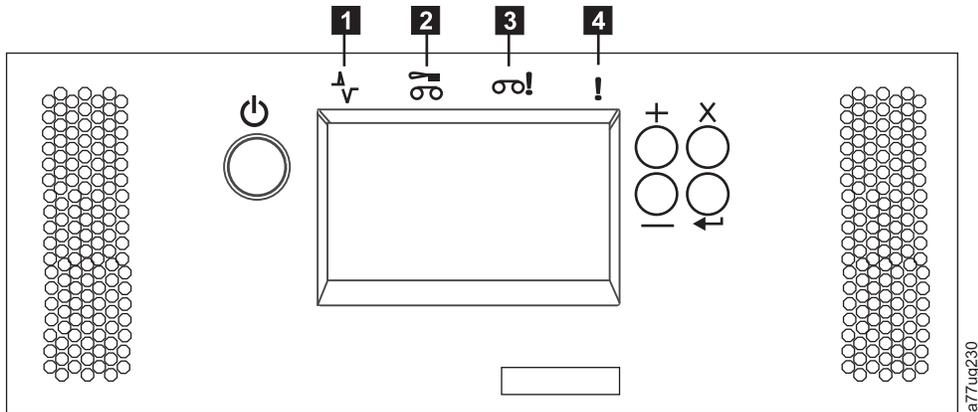

Figure 10-23. Library front panel LEDs
- 1) After power up, the Ready/Activity LED ( **1** in Figure 10-23 on page 10-23) turns ON.
- 1) The Error LED ( **4** in Figure 10-23 on page 10-23) turns ON.
- 1) The replacement library enclosure powers up with the Ready/Activity LED ( **L** in Figure 10-23 on page 10-23) ON.
- 1) The Error LED ( **4** in Figure 10-23 on page 10-23) turns ON. This action indicates that the library controller card from the defective library is not functioning properly.
- 1) The replacement library enclosure completes with the Ready/Activity LED ( **1** in Figure 10-23 on page 10-23) ON.
- 1) The error LED ( **4** in Figure 10-23 on page 10-23) turns ON.